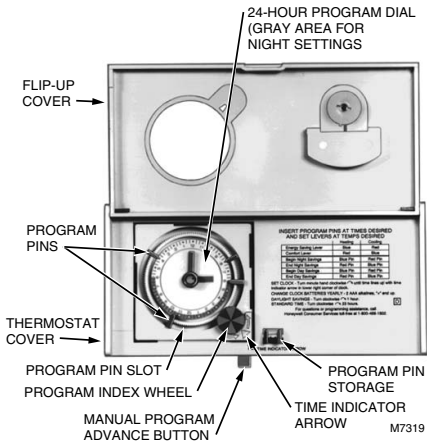

Fig. 4—Program Components.
- ❑ Lift thermostat flip-up cover to find the 24-hour program dial. The slots on the program dial (Fig. 4) are for the program pins that can be inserted at 10-minute intervals.